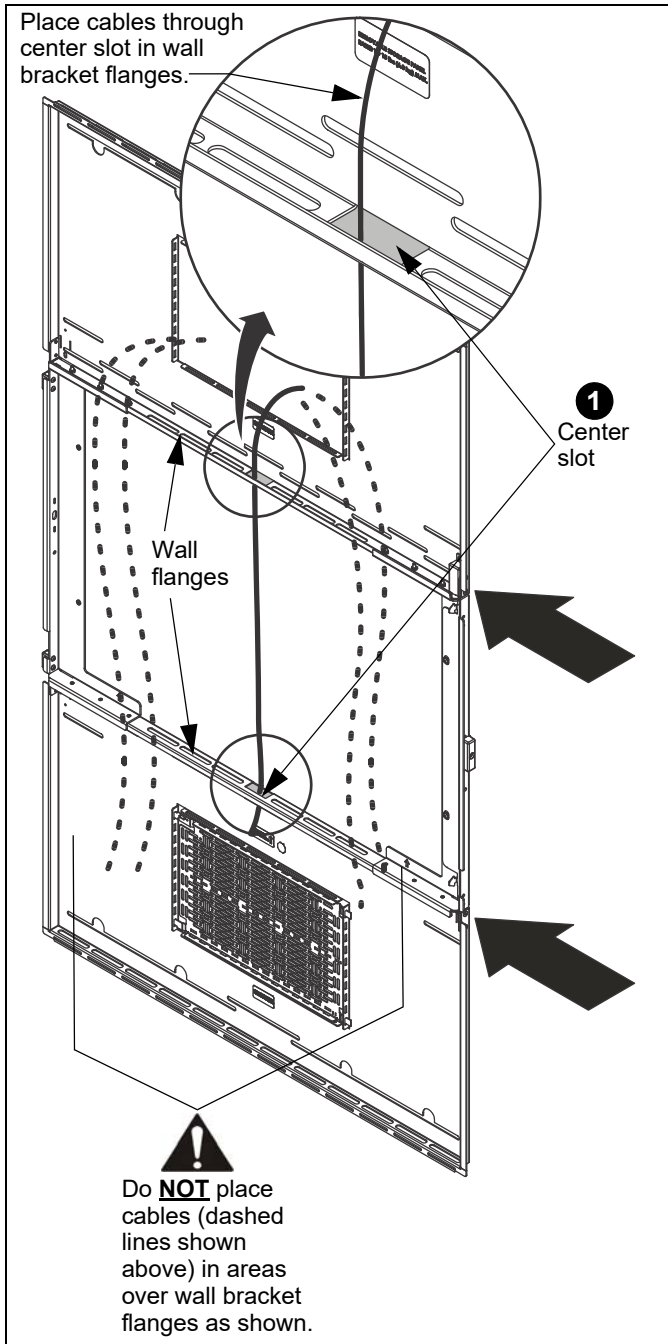

Figure 12
1. Cables may be placed through the center slot in the wall bracket flanges. (See Figure 12)
IMPORTANT ! : Cables should not be placed **OVER** the wall bracket flanges. Damage to cables may occur. (See Figure 12)